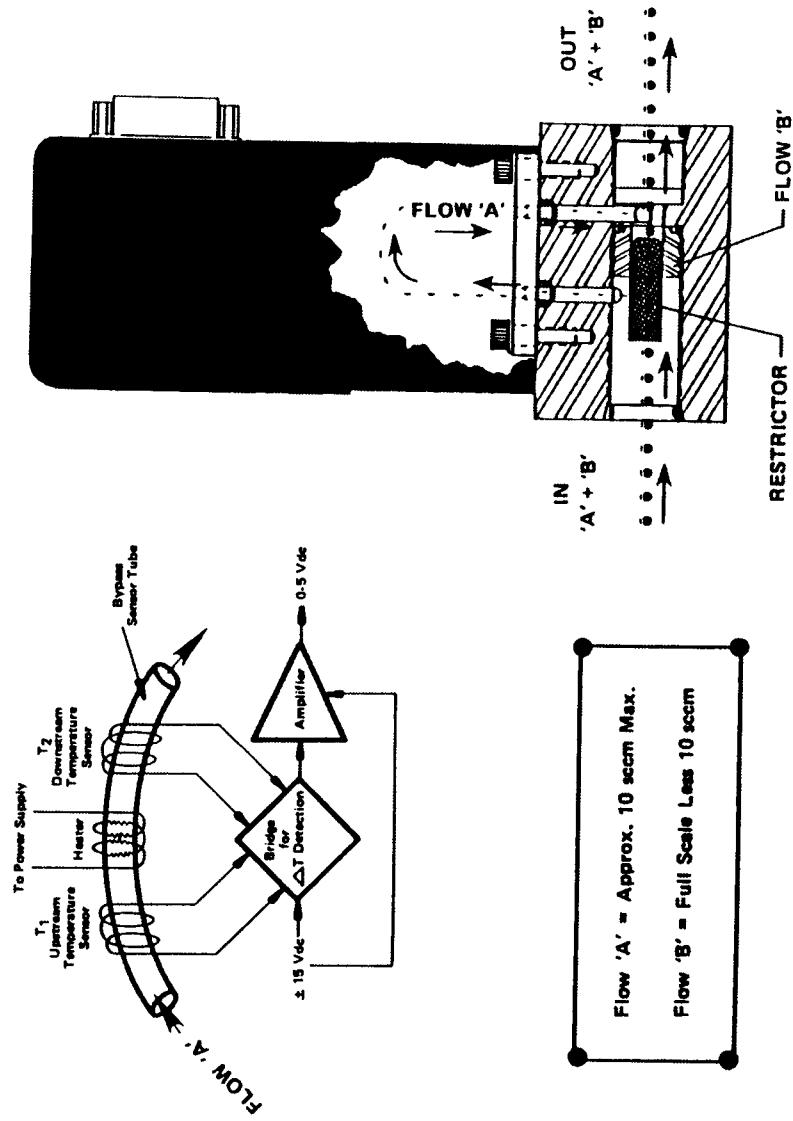

Figure 3-1. Flow Sensor Operational Diagram
A precision power supply provides a constant power heat input (P) at the heater, which is located at the midpoint of the sensor tube. Refer to Figure 3-1. At zero, or no flow conditions, the heat reaching each temperature sensor is equal.
The flow restrictor shown in Figure 3-1 performs a ranging function similar to a shunt resistor in an electrical ammeter. The restrictor provides a pressure drop that is linear with flow rate. The sensor tube has the same linear pressure drop/flow relationship. The ratio of the restrictor flow to the sensor tube flow remains constant over the range of the meter. Different restrictors have different pressure drops and produce meters with different full scale flow rates. The span adjustment in the electronics affects the fine adjustment of the meter's full scale flow.